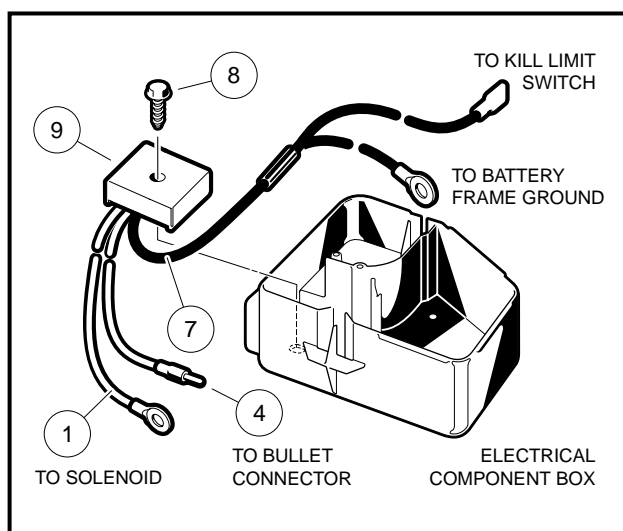

Figure 12-16 Voltage Regulator
3. Disconnect the voltage regulator red wire (1) at the large post on the solenoid, the yellow wire (4) at the bullet connector, and the black wire (7) from the wire harness and at the battery frame ground (**Figure 12-16, Page 12-13**).
4. Remove the voltage regulator mounting screw (8) and remove the voltage regulator (9).
1. Position the voltage regulator (9) in the electrical component box and install the mounting screw (8) (**Figure 12-16, Page 12-13**). Tighten screw to 23 in-lb (2.6 N·m).
2. Connect the voltage regulator red wire (1) at the large post on the solenoid with the other red wires, the yellow wire (4) at the bullet connector, and the black wire (7) to the wire harness and the battery frame ground (**Figure 12-16, Page 12-13**).